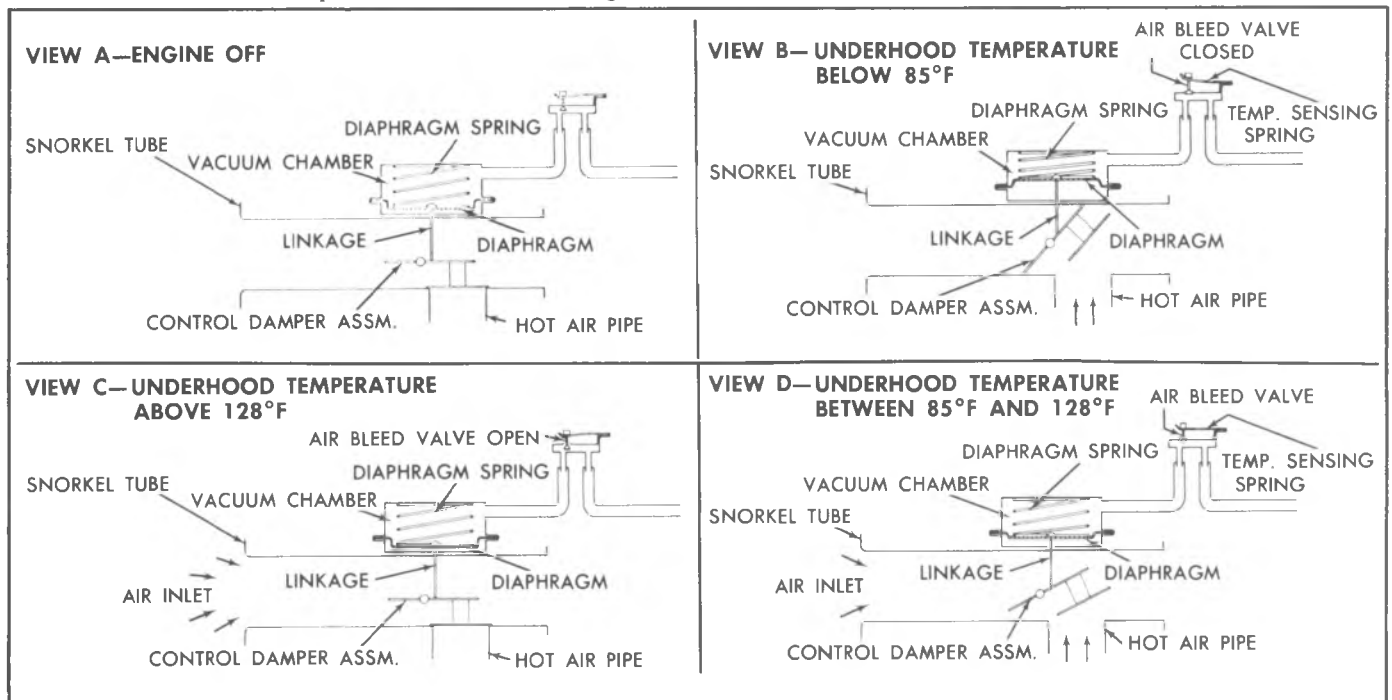

Fig. 6E-24—Air Cleaner Operation
3. Apply at least 7 in Hg. of vacuum to the diaphragm assembly through hose disconnected at sensor unit. Damper door should completely close snorkel passage when vacuum is applied. (Fig. 6E-24). If not, check to see if linkage is hooked up correctly and for a vacuum leak.
4. With vacuum applied, bend or clamp hose to trap vacuum in diaphragm assembly. Damper door should remain in position (closed snorkel passage) (Fig. 6E-24). If it does not, there is a vacuum leak in diaphragm assembly. Replace diaphragm assembly.
engine: it should be in the open snorkel position (Fig. 6E-24).
3. Start the engine and allow it to idle. Immediately after starting the engine, the damper door should be in the closed snorkel passage position (Fig. 6E-24).